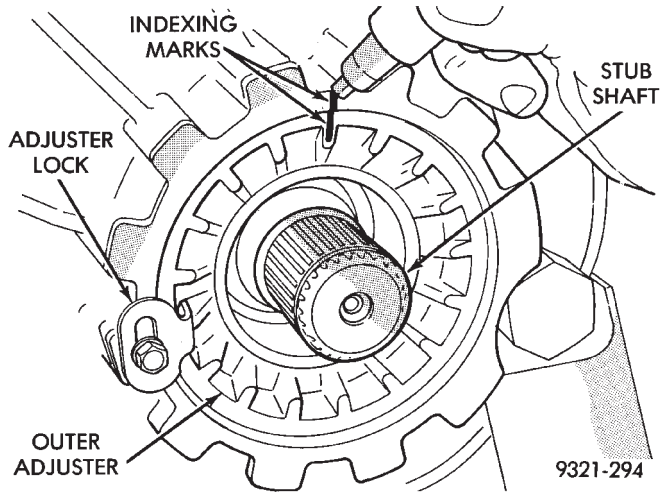

Fig. 63 Indexing Outer Adjuster
- (1) Place vehicle in neutral and lift vehicle on hoist.
- (2) Remove short driveshaft.
- (3) Index the outer adjuster (Fig. 63).